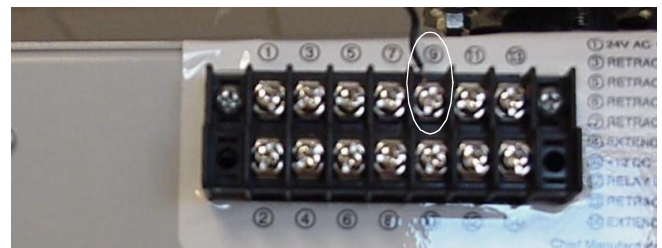

Figure 19. Contacts Connection
1. Install a wire between terminal #9 (shown) and contacts or switch (see Figure 19).